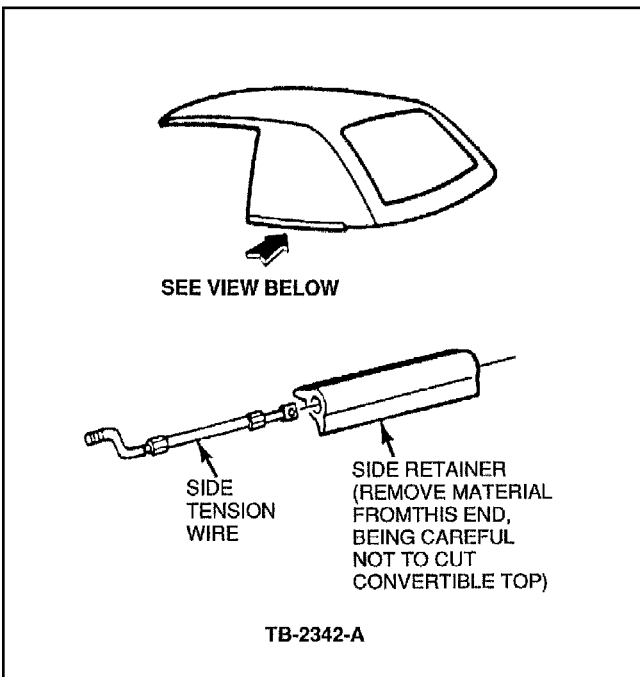

Figure 2 - Article 91-21-1
2. Use a knife to cut 5mm of material away from the end of the retainer, immediately behind the cable pivot, Figures 2 and 3.